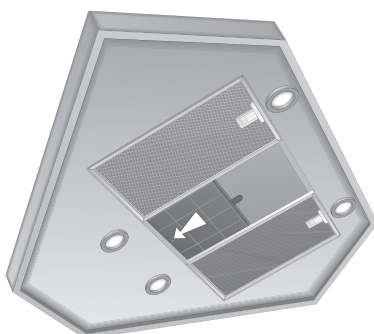

Fig. 3
- remove the light unit (Fig. 3).